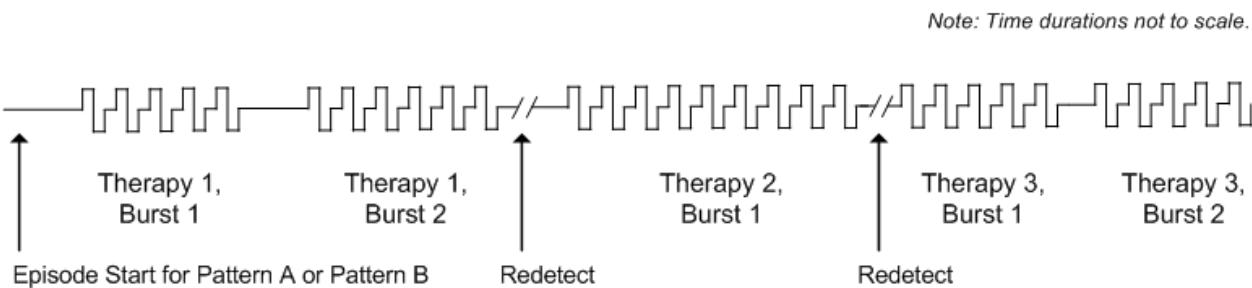

Figure 35: **A THERAPY SEQUENCE DELIVERED IN RESPONSE TO ANY EVENT DETECTOR**
- Up to two bursts may be selected to be delivered in response to any event detector as depicted in Figure 35.